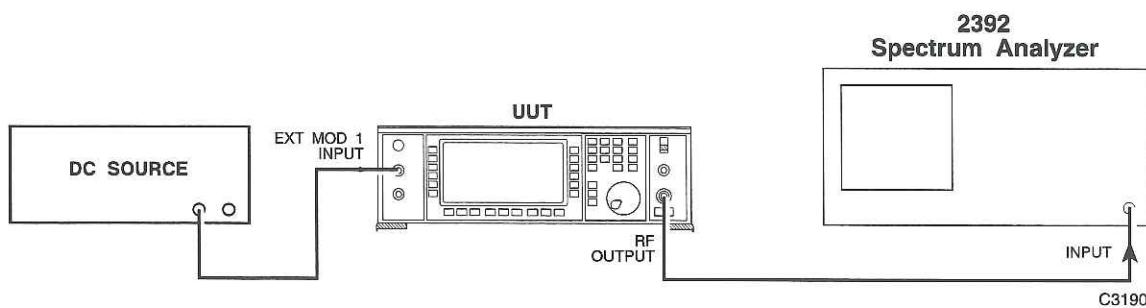

Fig. A-1 Equipment configuration for AM trough nulling
| Fig. A-1 Equipment configuration for AM trough nulling | App. A-3 |
- (1) AM trough nulling (Process 0) is performed as follows:
- (a) Connect the DC source to the EXT MOD 1 INPUT socket on the UUT. Connect the RF OUTPUT socket on the UUT to the spectrum analyzer RF input. Equipment configuration is shown in Fig. A-1.